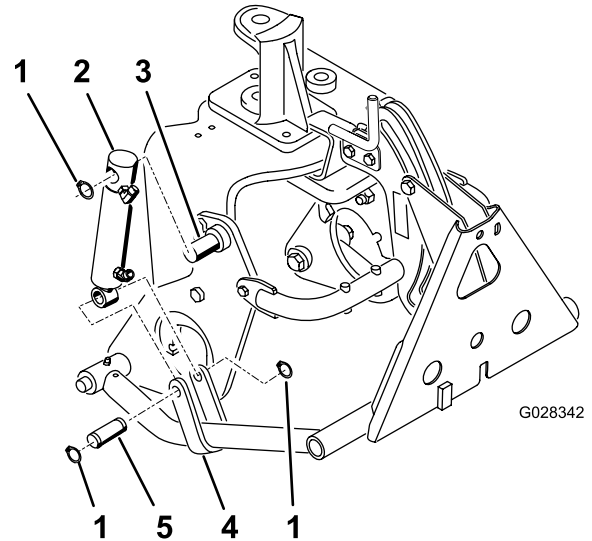

Figure 18
3. Mount the top of the hydraulic cylinder barrel to the pin on the right-hand plow plate with a retaining ring (Figure 18).
4. Mount the cylinder rod to the push arm straps with a pin and 2 retaining rings (Figure 18).